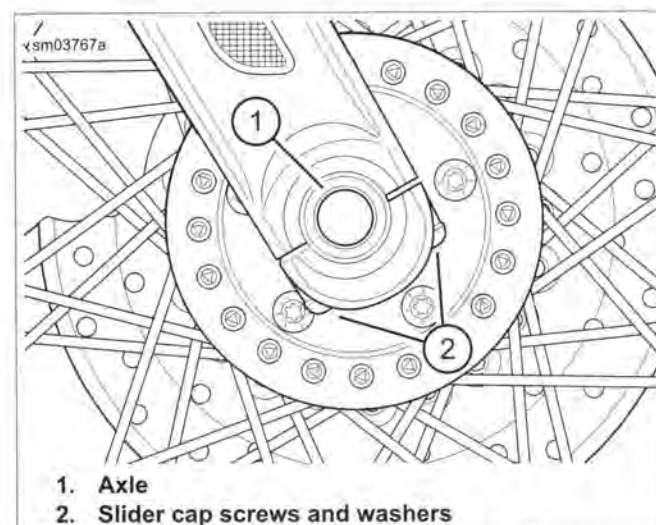
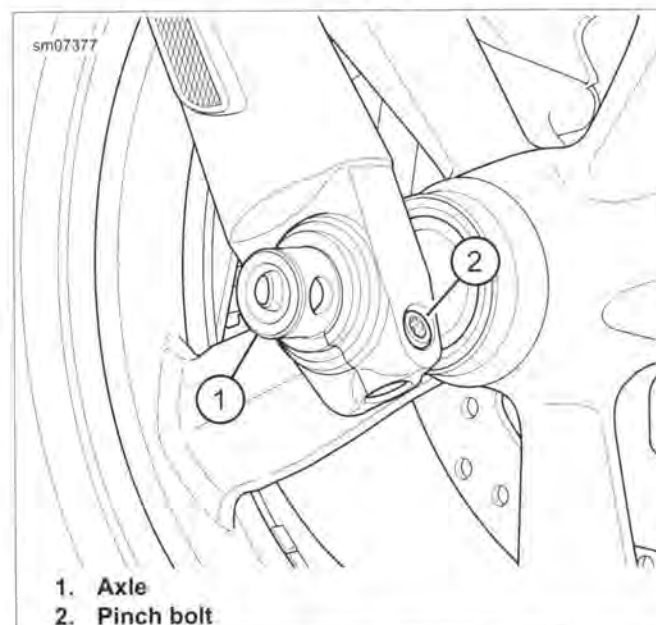

Figure 2-4. Front Wheel Mounting: All but FLD (Right Side)
Figure 2-5. Front Wheel Mounting: FLD (Right Side)
4. Remove axle nut and washer (3).
5. See Figure 2-4 or Figure 2-5. Loosen the slider cap screws and washers (2) or pinch bolt (2). Pull the axle (1) free.